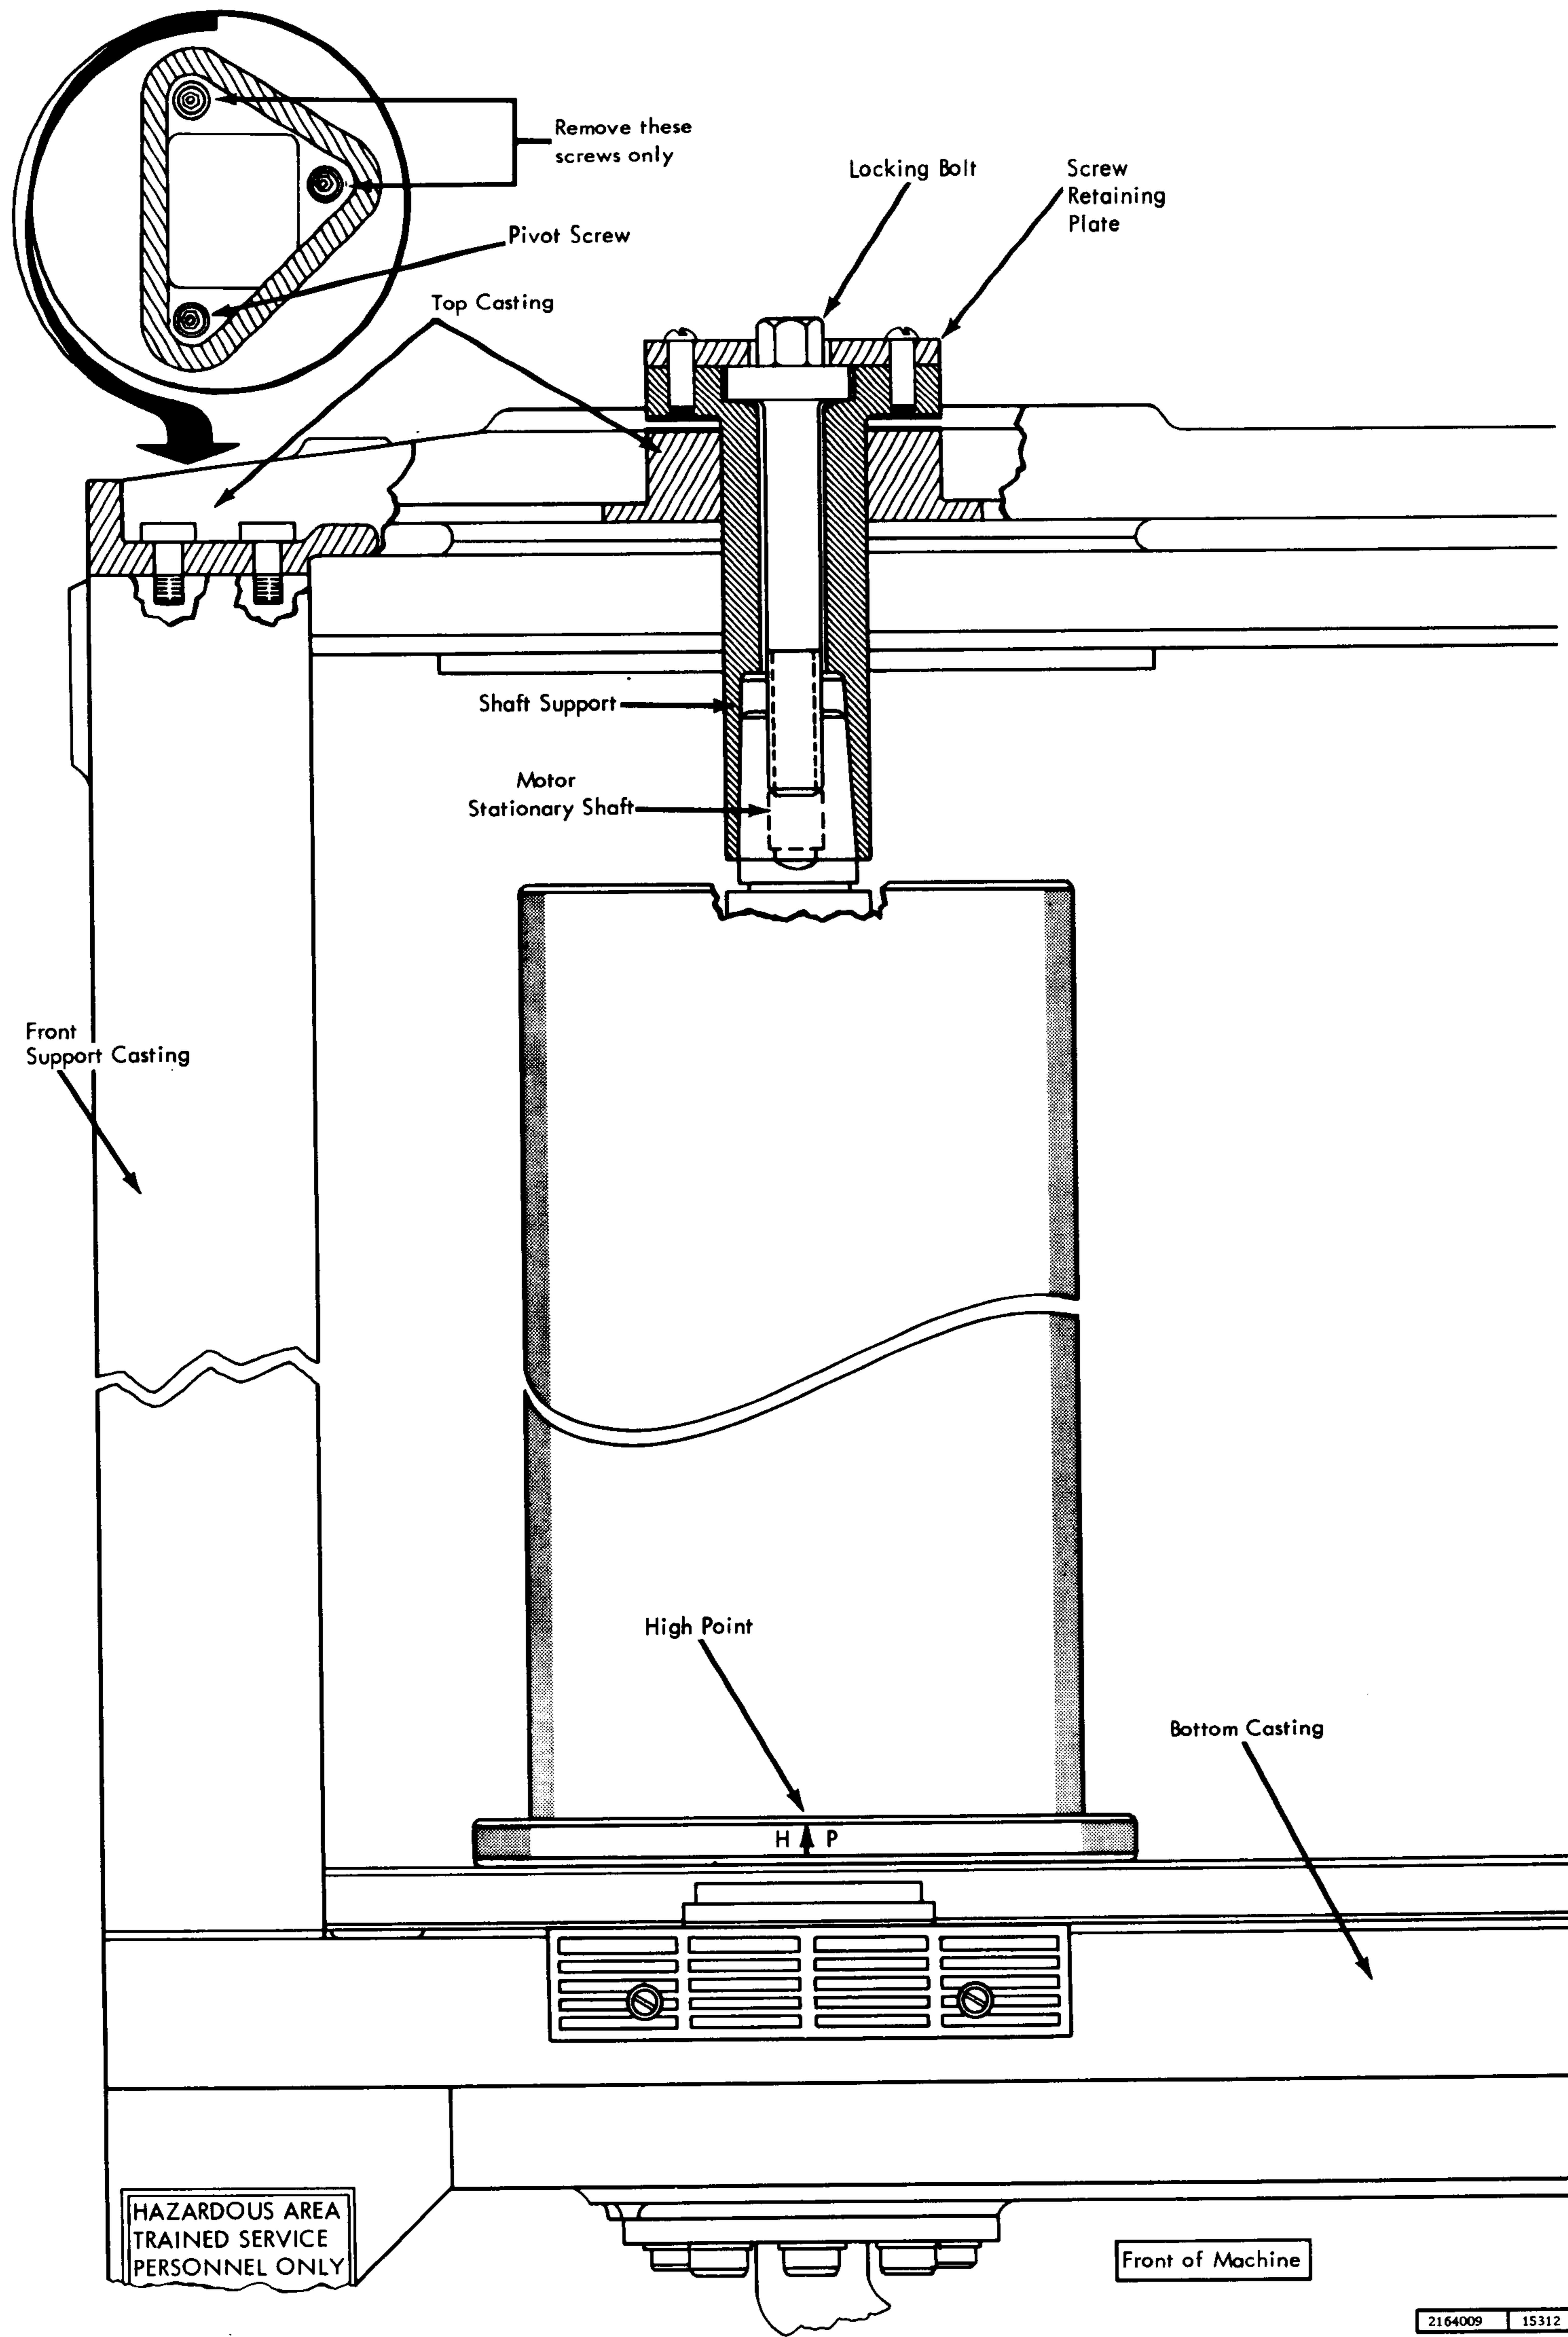

Figure 3-6 Shaft Motor
7. Remove the two rearmost screws from the top and bottom of the front support casting and rotate casting 90° clockwise, away from the disk array (Figure 3-6). DO not bend, or tear strut alignment shims.
10. Remove locking bolt (Figure 3-6). During this removal process, the locking bolt will exert a lifting force on the bottom of the screw retaining plate. This lifting force will raise the screw retaining plate and the shaft support stationary shaft. Do not remove locking bolt or shaft support from top casting. If just restacking disk, raise it so that its underside is flush with bottom of top casting. Use aluminum spacer block from disk alignment kit to prevent its falling and damaging disk surface. If replacing shaftmotor, remove entirely.